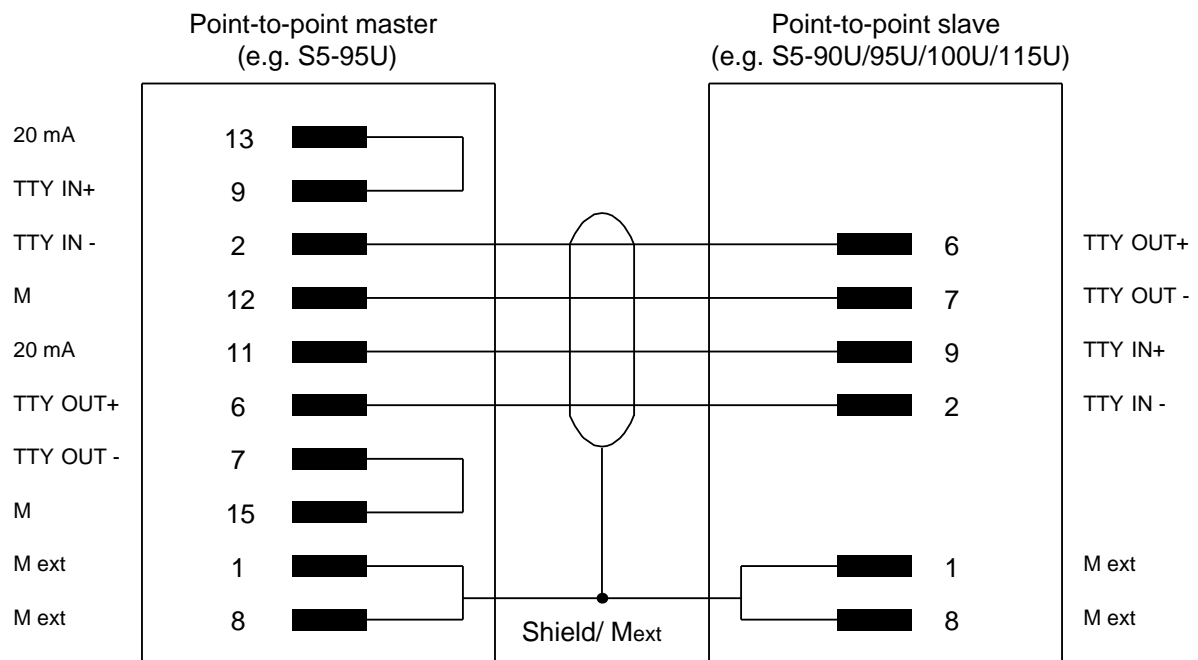

Figure 2-4 Pin Assignments Point-To-Point Master (TTY Active) - Point-To-Point Slave (TTY Passive)
- via a direct cable (Figure 2-4, 2-5). Use a 4-core, shielded cable with a cross-section of at least 0.14 mm². We recommend the 707-1 bus cable 707-1(Order number Appendix D).